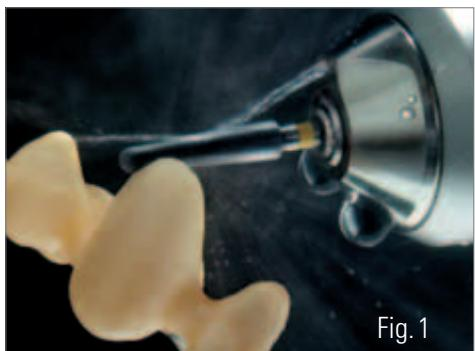

Fig.1
- Corrections after sintering should be made only with a rotary instrument for wet grinding (fig. 1), and in the case of primary telescopes with a grinding unit under water cooling and at a low pressure. It is also possible to process the substructure using soft, diamond rubber polishers and a handpiece with slow speeds and low pressure. The instrument must lie flat on the surface and must not "rattle about".